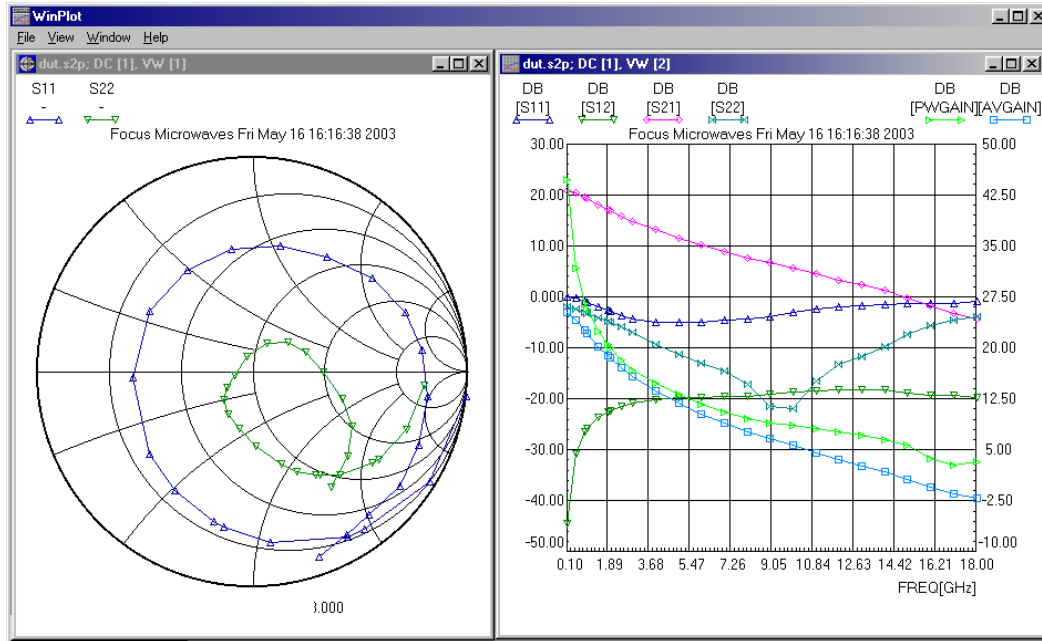
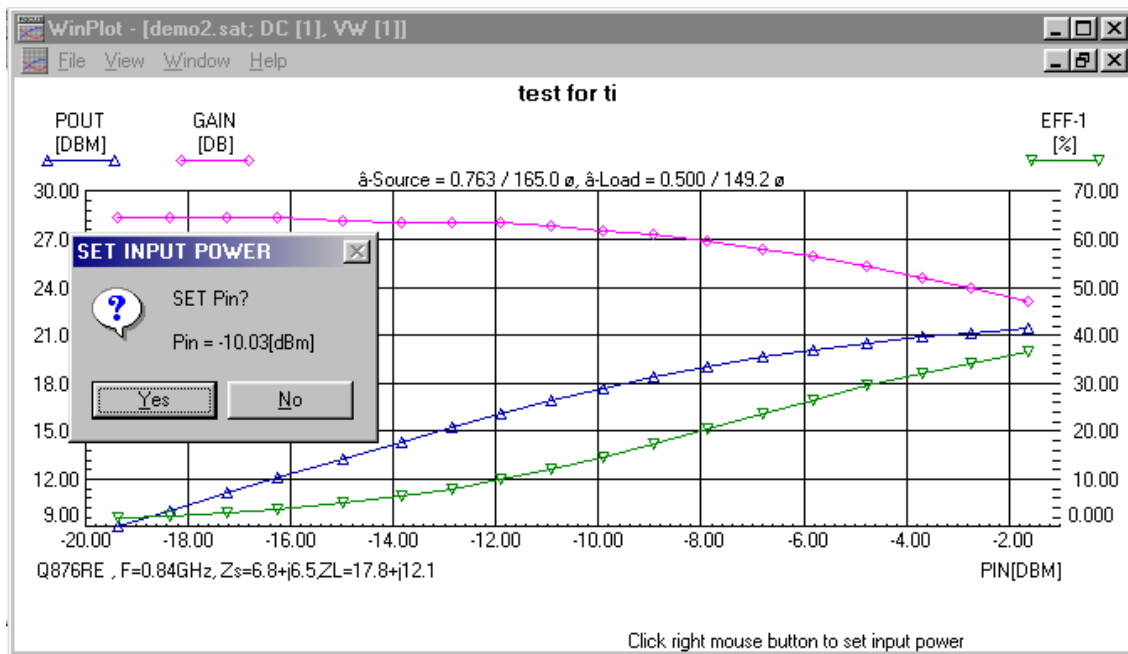

Figure 4: WinPlot S2P file
Figure 5: Saturation file
- Display S2P (Figure 4), S1P, Saturation (SAT) (Figure 5) and IV Curve (DCP) files using Cartesian and Smith Chart plots.
An important feature of *WinPlot* is “Automatic Setting” of input power to the load pull setup when displaying a saturation file (figure 5) or DC bias conditions when displaying IV curves.
A right click on a position within the plot will retrieve the actual parameter data, and adjust the source RF power (figure 5) or adjust the bias conditions via instrument control within *WinPower*.